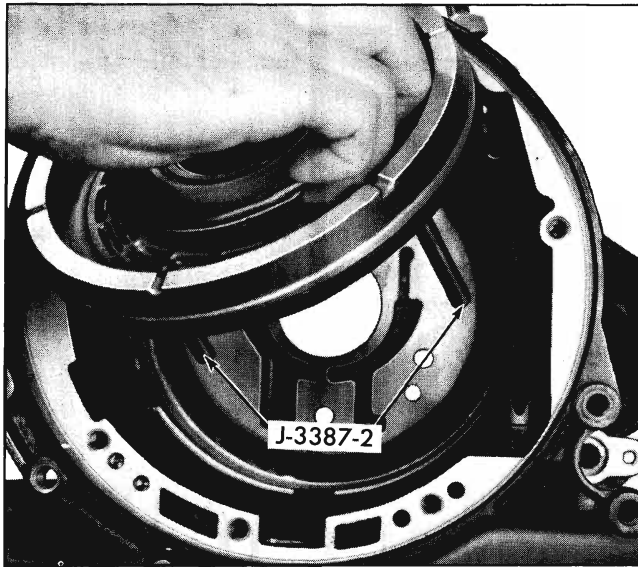

Fig. 7A-68 Installing Rear Pump and Reverse Piston
3. Insert rear pump and reverse piston with guide pins into case (Fig. 7A-68). Insert a length of .010"-.015" shim stock between piston outer seal and case. Run shim stock around entire diameter of seal to seat the seal.